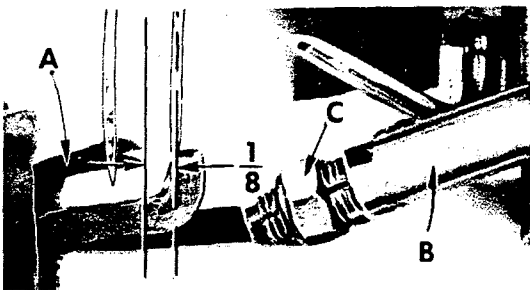

Fig. 4
Insert the lower spreader (A, Fig. 4) into bar (B). With lower spreader at left end of its stroke, set spreader point  $\frac{1}{8}$  inch from centerline of right needle (Fig. 4) using gauge No. 21225- $\frac{1}{8}$ . Do not have lower spreader deflecting needle. Do not lock nut (C) because the spreader point will have to be set to the needle scarf after the rear needle guard has been assembled and positioned. (See paragraph under "Final Setting of Lower Spreader").
is obtained by rocking the spreader forward or backward around its shank. Recheck the 1/8 inch spreader gauge setting and tighten nut (C, Fig. 4).